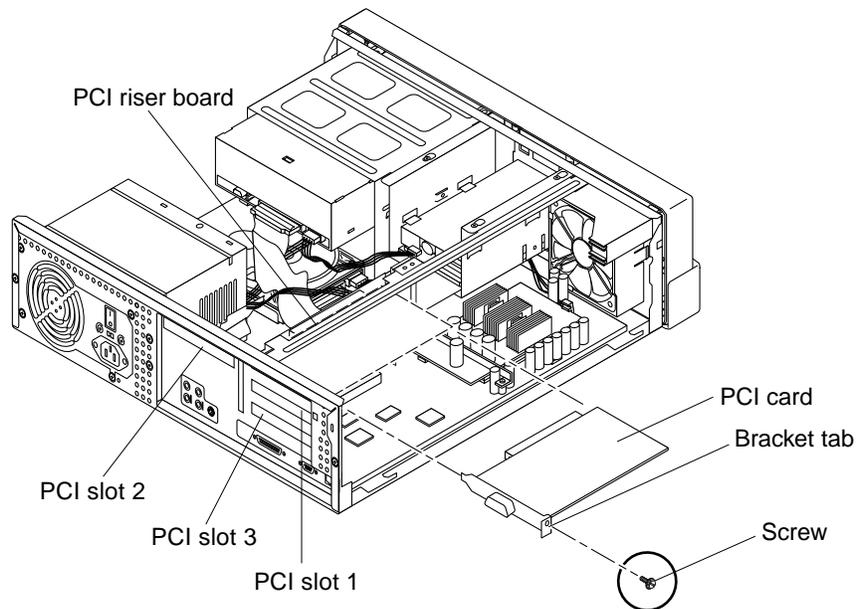

FIGURE 8-4 Removing and Replacing a PCI Card From PCI Slot 1 or 3
3. **Remove the PCI card from PCI slots 1 or 3 as follows (FIGURE 8-4):**
2. **Replace the PCI card into PCI slot 1 or 3 as follows (FIGURE 8-4):**